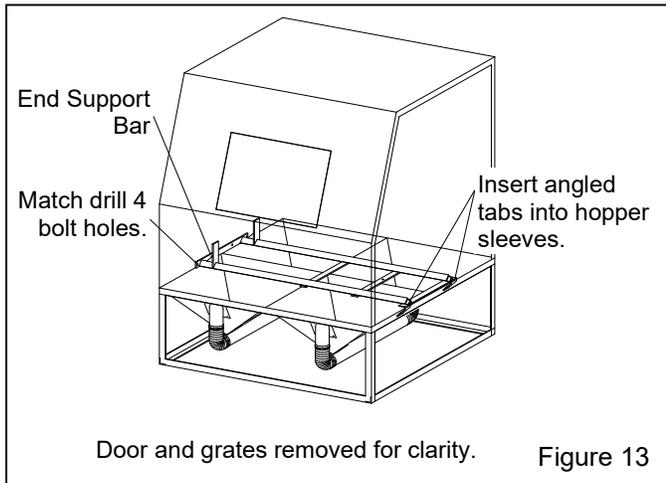

Figure 13
3.5.2 Install inside track – Figure 13
3.5.2.1 Lay the inside track on the cabinet hoppers and above the grate as shown in Figure 13.